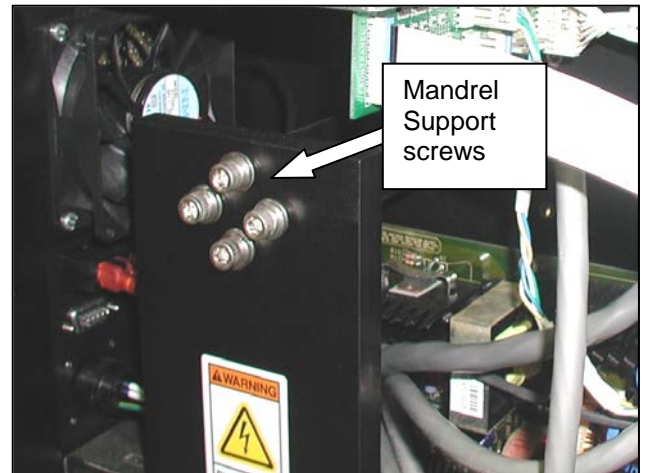

Figure 3-120. Mandrel Support Screws
3. Remove the seven screws from the Mandrel Support Plate (Figure 3-120 & 3-121).